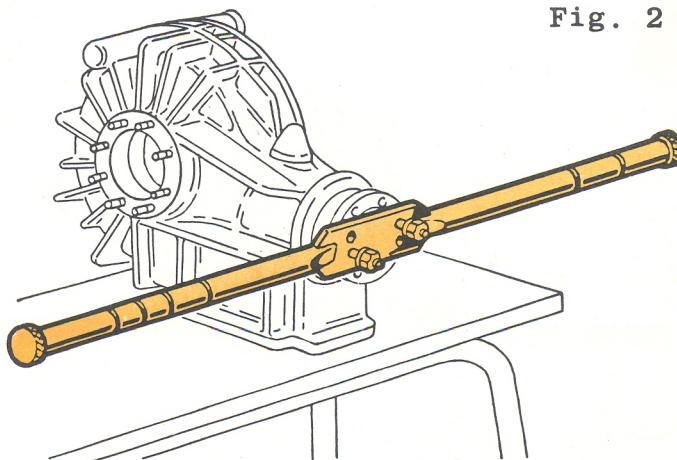
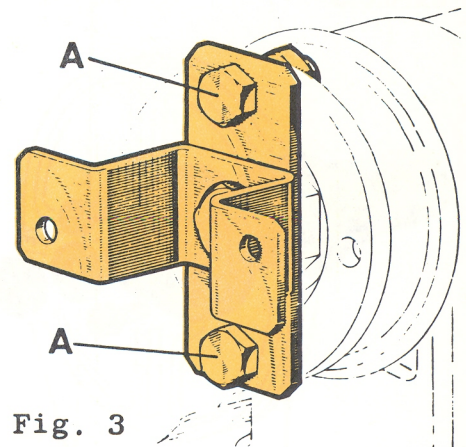
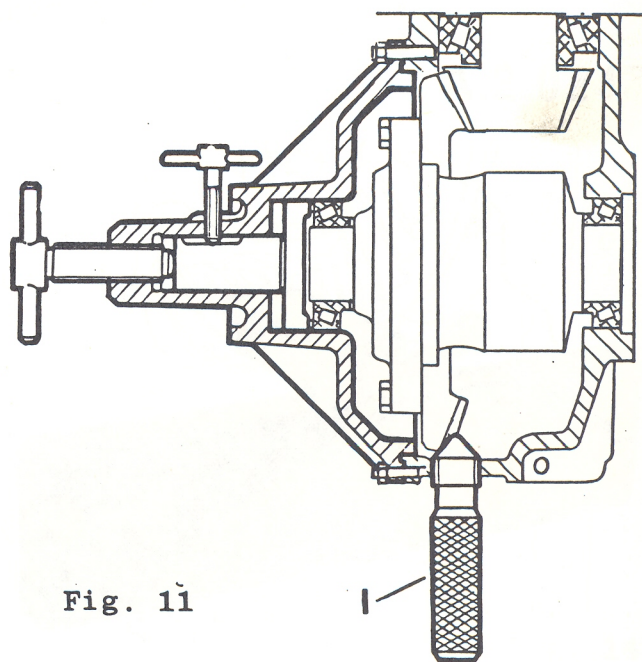

Fig. 2
Fig. 3
Fig. 11
- Fit the tool to the pinion shaft yoke; to do so, insert the two studs "A" as applicable into the relevant holes in the yoke; then, secure the tool in place (see figure 2). On Montreal model, use the tool A.2.0210 (shown at fig. 3) which acts as an adaptor for the tool C.5.0100.
**12** Refer to the Tool Bulletin 102, and specifically to the fig. 2. Lock the crown wheel by means of the setscrew "H". See figure 11. Then, fit the tool C.5.0100 to the pinion shaft yoke as directed by paragr. 2.